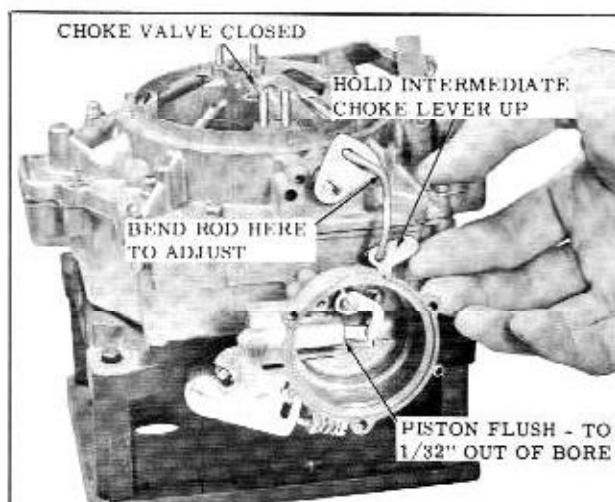

Fig. 8-112 Intermediate Choke Rod Adjustment
1. With the choke cover and baffle removed position the fast idle screw on the high step of the fast idle cam. Raise the intermediate choke lever to its full up position then push lightly on the end of choke piston to remove all lash in the linkage, check to see if the choke piston is flush to $1/32$ " out of the choke piston bore. (Fig. 8-112)